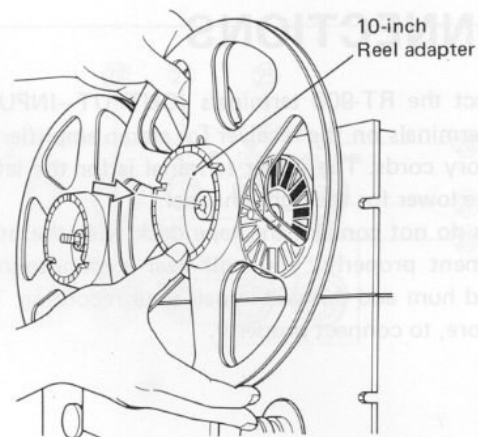

Fig. 5
1. Slip the reels over the bases. Simply insert with the 7-inch reels. With the 10-inch reels, however, use the accessory reel adapters (see Fig. 5) and then insert.